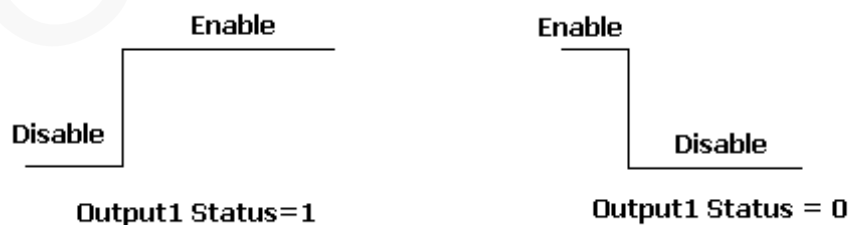
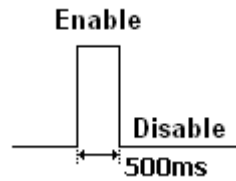
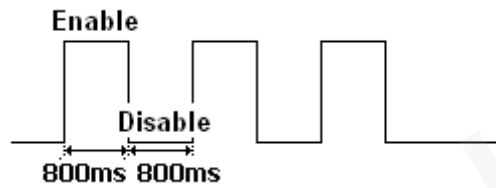

Figure 2: Wave Shape 1
Figure 3: Wave Shape 2
Figure 4: Wave Shape 3
- ✧ <Output1 Status>: Valid only for the wave shape 1 as shown in **Figure 2**, it is used to set the final status of the output port.
- ✧ <Duration>: Please refer to **Figure 2**, **Figure 3** and **Figure 4**. Unit: 100ms.
- ✧ <Toggle Times>: Please refer to **Figure 2**, **Figure 3** and **Figure 4**.